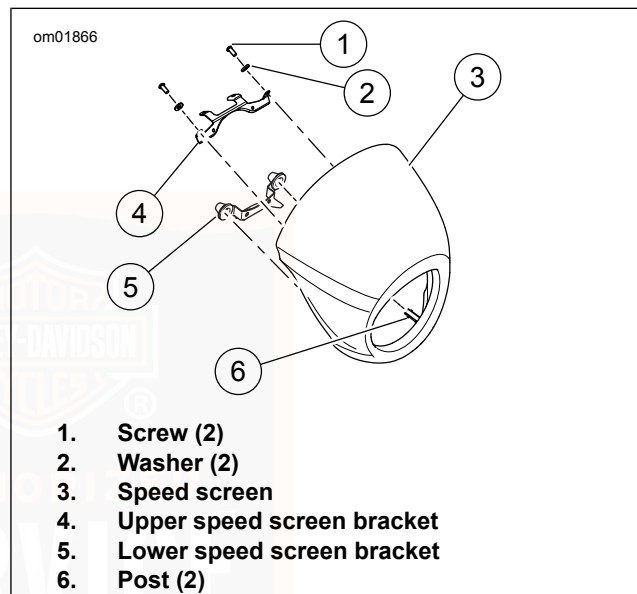
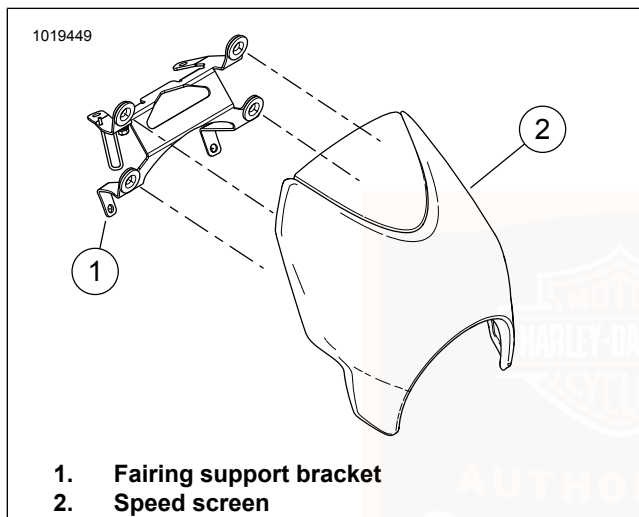

Figure 52. Headlamp Speed Screen: Harley-Davidson Street 500 (XG500), Harley-Davidson Street 750 (XG750)
Figure 53. Headlamp Speed Screen: Street Rod (XG750A)
- a. See Figure 52. Remove speed screen screws (1) and washers (2).
- b. Pull speed screen away from upper speed screen bracket (4).
- c. Pull speed screen away from lower speed screen bracket (5).
- a. See Figure 53. Pull speed screen (2) away from speed screen bracket (1).
6. See Figure 53. Align posts of speed screen (3) with grommets.
- a. Install speed screen onto lower speed screen bracket (5).
- b. Align speed screen to upper speed screen bracket (4).
- c. Install washers (2) and screws (1).
- a. See Figure 53. Align speed screen post to grommets and push.
2. Remove speed screen. See Figure 52 and Figure 53.
4. Install speed screen. See Figure 52 and Figure 53.